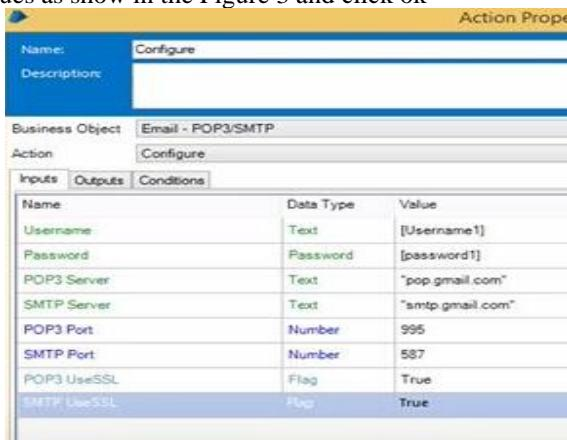

Figure 3: Shows Configure Action stage properties
Step 3: Create an action stage with name Configuration and select the Business Object as 'Email POP3/SMTP', Action value as 'Configure' and provide details of all Inputs values as show in the Figure 3 and click ok